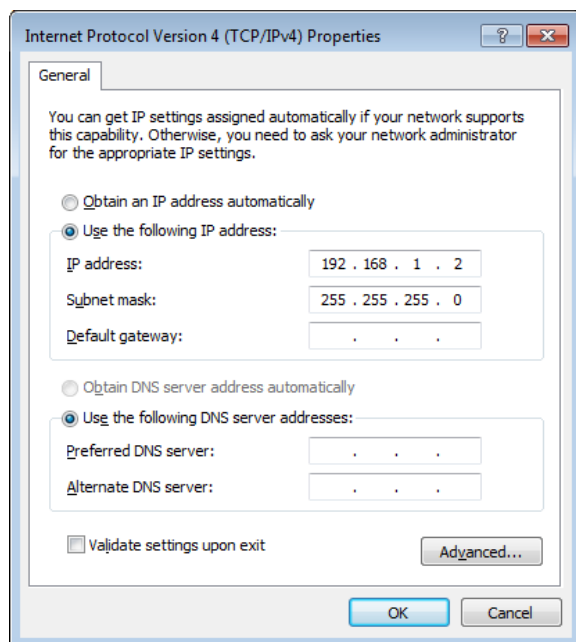

Figure 1.16. Static IP configuration for the host computer
2. Set this network card to static IP in TCP/IPv4 using the address 192.168.1.n, where n=[2..9] and the mask 255.255.255.0, see Figure 1.16 (go to Control Panel → Internet Options → Network and Internet → Network and Sharing Center → Local Area Connection → Properties).